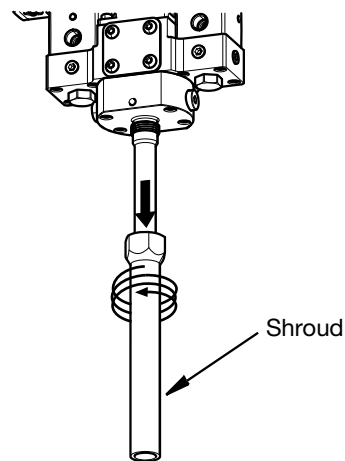

FIG. 36
4. Remove the shroud from the Voltex Dynamic Mix Valve. See FIG. 36.